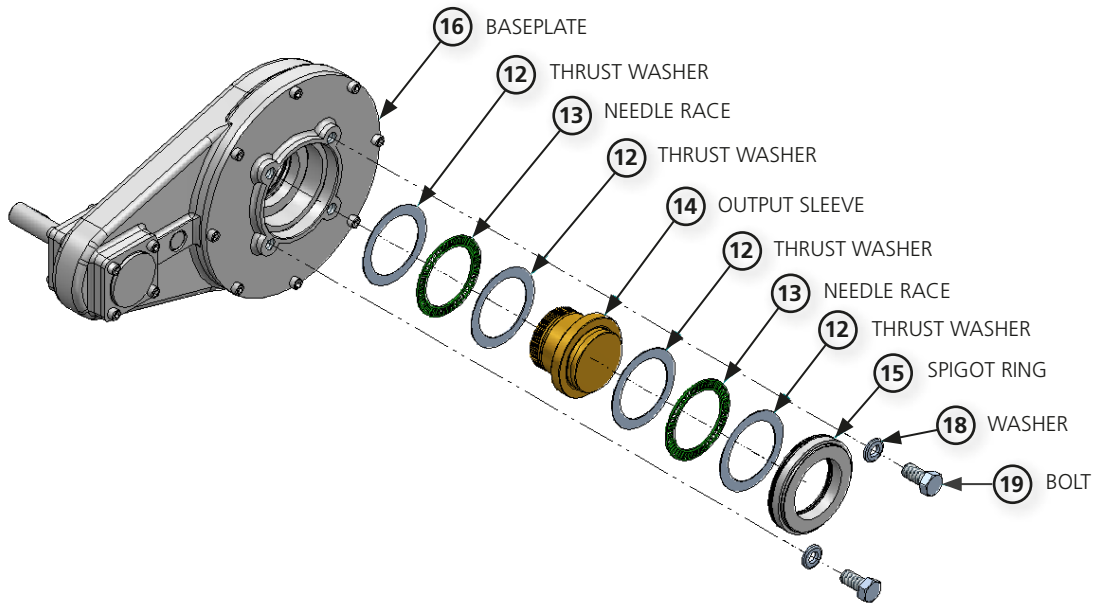
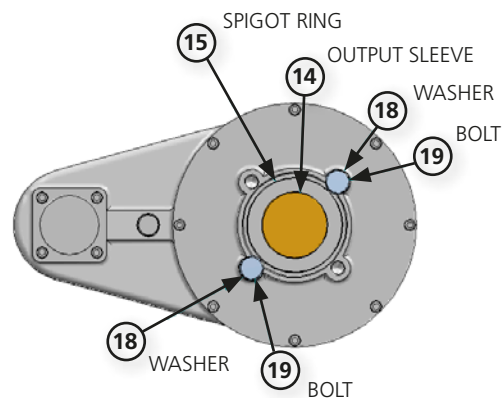

Figure 7 – Bevel and spur gearbox output sleeve assembly
Figure 10 – Securing spigot example
Refer to Figure 7. The output sleeve arrangement is identical for all gearboxes although large gearboxes have cylindrical roller thrust bearings instead of needle roller bearings.
**⚠ IMPORTANT:** The thrust bearings in the output **MUST** be fitted correctly, along with the output sleeve and the spigot ring. Refer to Figure 7. The thrust bearings (13) **MUST** have a thrust washer (12) at each side of the bearing. A bearing / washer assembly **MUST** be fitted at each side of the output sleeve thrust shoulder.
**⚠ We recommend fitting a bolt (19) and washer (18) fixture into the base of the gearbox as illustrated in Figure 7 and Figure 10. Note that the washers must overlap the spigot ring (15). This will stop the output sleeve assembly from becoming detached from the main body. The bolts and washers are not supplied by Rotork.**